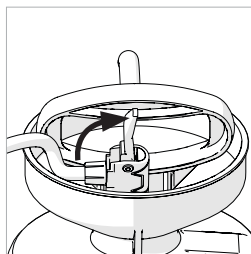

Fig. 2
- Push the pump connector on to the valve and lift the lever upwards, be sure the fitment is not leaking before pressurising the tank. **(Fig. 2)**